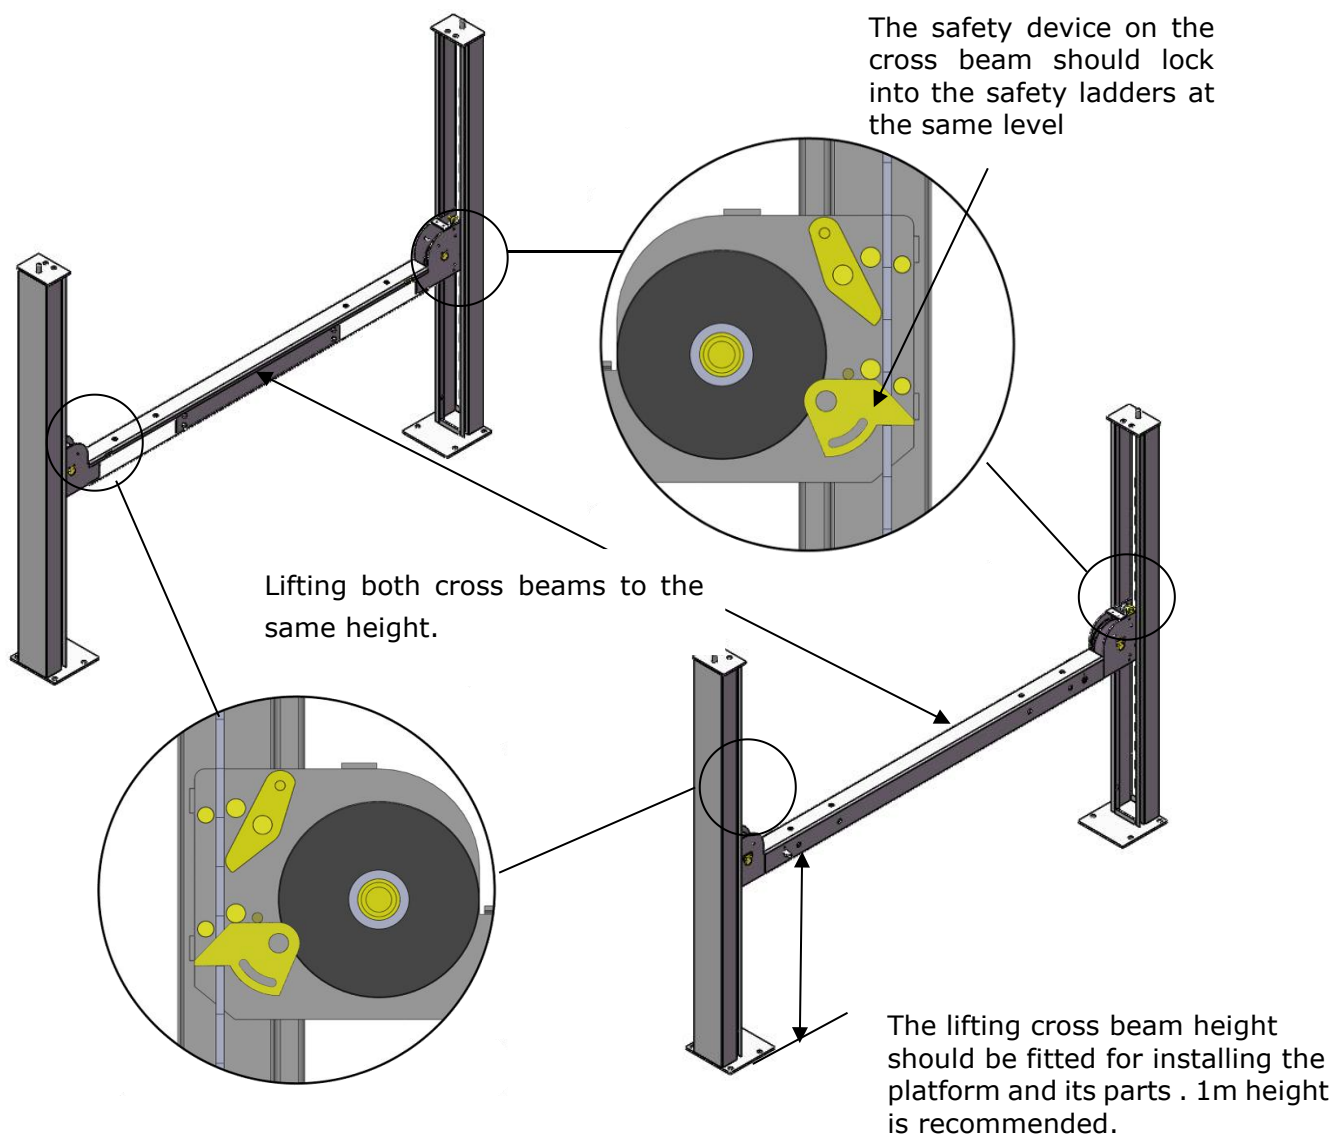

Fig. 16
E. Put the cross beams at the same height and lock on the safety ladder (See Fig. 16).